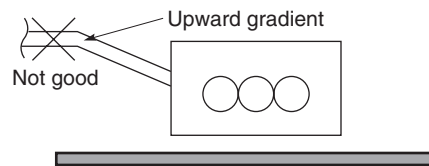

Fig. 1-112
- Do not install the pipe with an upward gradient from the connection port. This will cause the drain water to flow backward and leak when the unit is not operating. (Fig. 1-112)